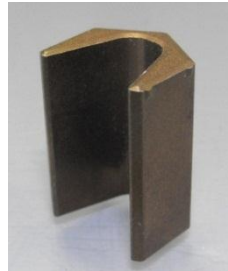
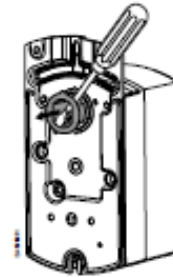

Figure 2: 3/8-inch Shaft Adapter
Figure 3
1. Get the Actuator (10), 3/8-inch Shaft Adapter (Figure 2: 3/8-inch Shaft Adapter) and the Position Indicator (Figure 3) out of the packaging.
2. Remove factory installed 1/2-inch guide, as shown below (Figure 3), to accommodate the size of the Stem (3).